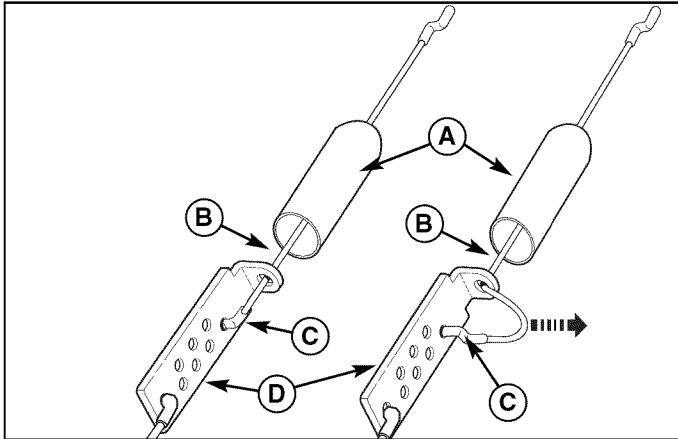

Figure 17. Traction Drive Cable Adjustment
2. To adjust tension on the cable slide the cable boot (A, Figure 17) off the cable adjustment bracket (D).
3. Remove the "Z" hook (C) from the cable adjustment bracket (D) to a different adjustment hole. The cable should have no slack. The cable should have no tension or load.